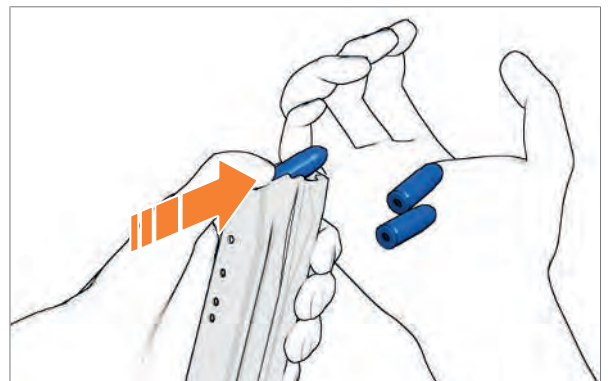

Fig. 55: Empty the magazine
- › Push cartridges forwards out of magazine (*Fig. 55*).